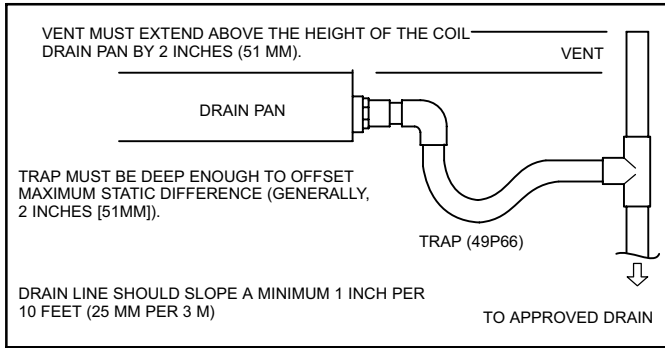

Figure 12. Typical Condensate Drain
Connect main condensate drain and route downward to an open drain or sump. Do not connect drain to a closed waste system. See figure 12 for typical condensate trap configuration.
- An open vent in the drain line, as illustrated in figure 12, should be used to overcome line length, friction and static pressure.
- Drains should be constructed in a manner to facilitate future cleaning and not interfere with filter access as illustrated in figure 12 on page 9.